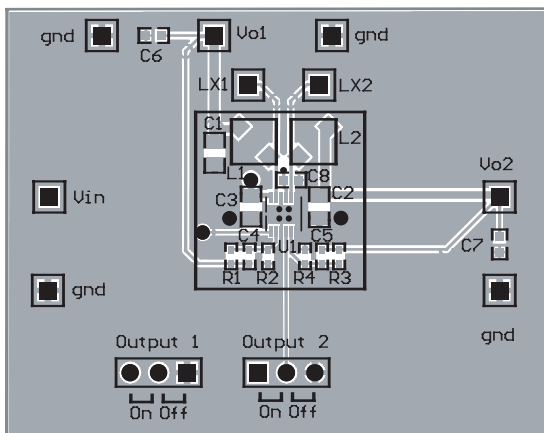

Figure 4: AAT2512 Evaluation Board Top Side.
1. Due to the pin placement of V_{IN} for both converters, proper decoupling is not possible with just one input capacitor. The large input capacitor C3 should connect as closely as possible to V_P and GND, as shown in Figure 4. The additional input bypass capacitor C8 is necessary for proper high frequency decoupling of the second converter.